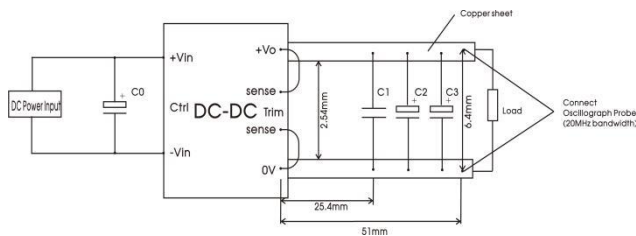

Fig.1
<p>Note:</p> <p>①The Ctrl pin voltage is referenced to input -Vin.</p> <p>②Ripple & Noise for 48VDC output at 0%Io-100%Io load ≤ 400mV, others outputs at 0%Io-100%Io load ≤ 300mV, the measuring method of ripple and noise, please refer to Fig. 1 .</p>
All the DC-DC converters of this series are tested before delivery using the recommended circuit shown in Fig. 1.